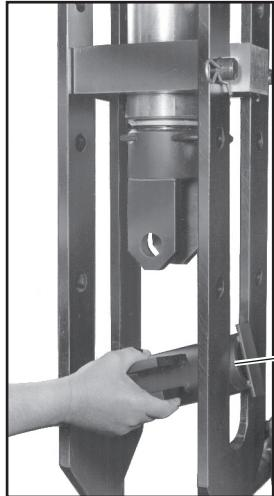

Figure 5
2. Rotate the yoke 90° from its normal position and place the ram positioner between the connecting bars as shown in Fig. 5. Mounting tabs of ram positioner should be up as shown in Fig. 6.